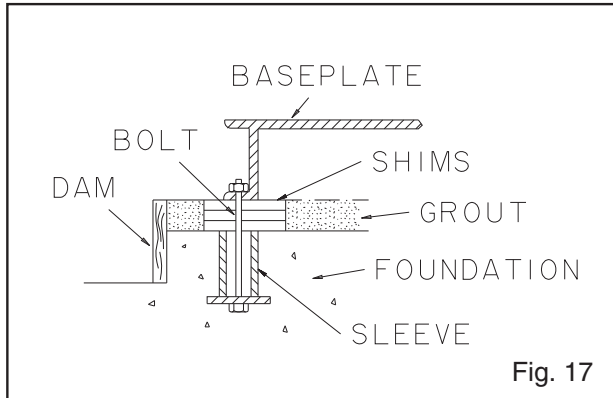

Fig. 17
2. Build dam around foundation. Thoroughly wet foundation (Fig. 17).